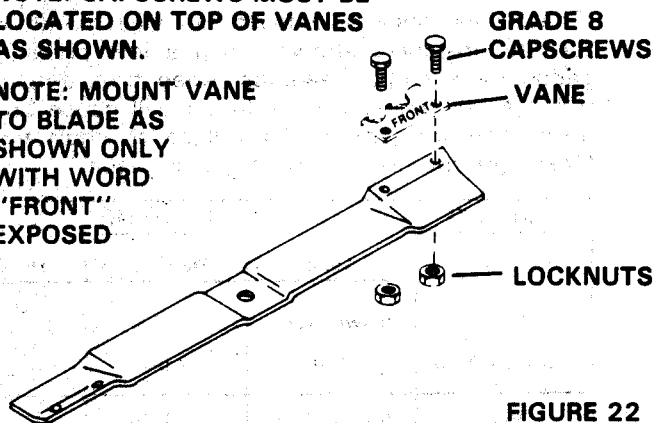

FIGURE 22
5. When installing the battery, make certain the ground cable is connected to the negative(-) terminal on battery. See Figure 22. Be sure positive cable is connected to positive (+) terminal.